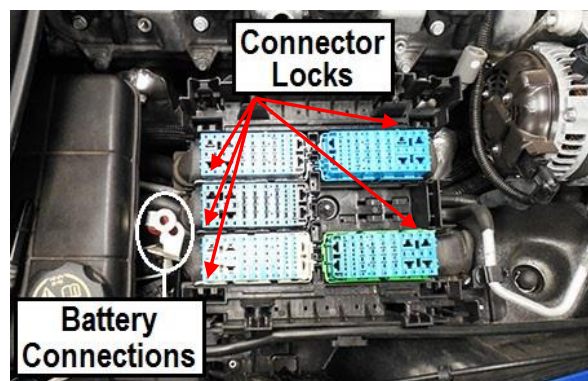

Figure 2
- C) Unlock the connectors from the tray by pushing the lock tab out and sliding the connector away from the center of the tray. Remove the (x3) 10mm nuts securing the connector tray to the fender well (**Figure 2**).